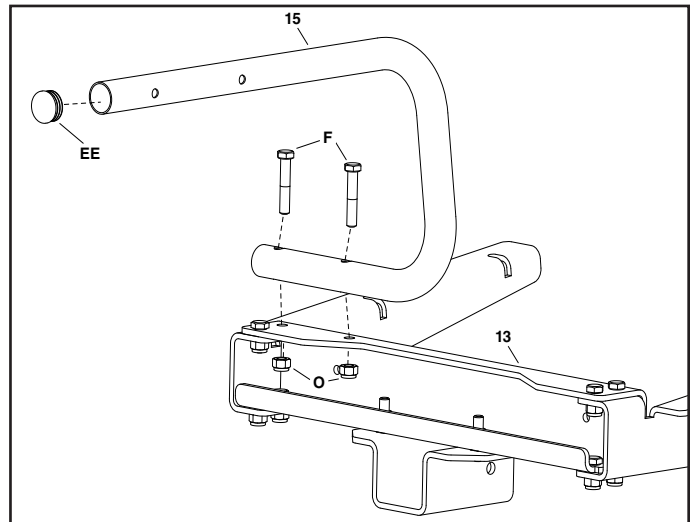

FIGURE 6
STEP 6: (SEE FIGURE 6)
- Attach the control mount tube (15) to the top left of the hopper mount bracket (13) using two hex bolts (F) and two nylock hex nut (O). Do not fully tighten yet.